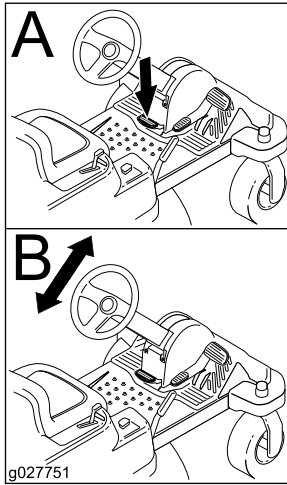

Figure 12
2. Position the steering wheel to the desired position (Figure 12).